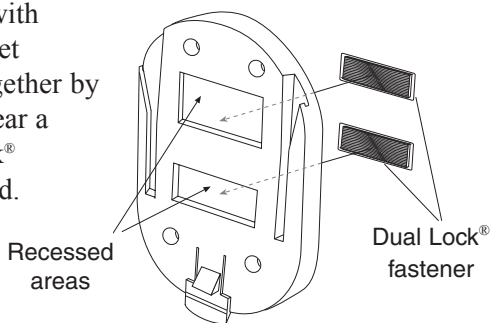

Figure 1
3. Line up the piece of Dual Lock® fastener on the headboard with the two pieces on the bracket (**Figure 1**). Fasten them together by firmly pressing. You will hear a "click" when the Dual Lock® fastener is properly mounted.